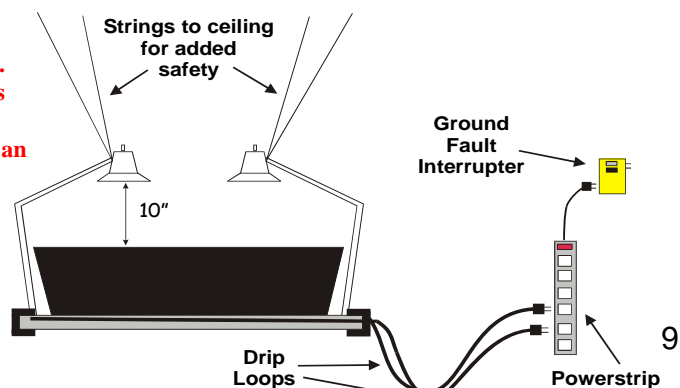

Fig.1 -Tank Setup
3. Assemble the lights and clamp them to the table so they can sit about 8" above the top of the chamber. Plug the lights into the powerstrip. Install the light bulbs into the lights. Make sure a drip loop@* is set up to prevent water from accidentally dripping into the powerstrip socket (Fig. 1).
- 3. Set up drip loops on all cords so that water cannot run into the outlet. (See Fig. 1)**